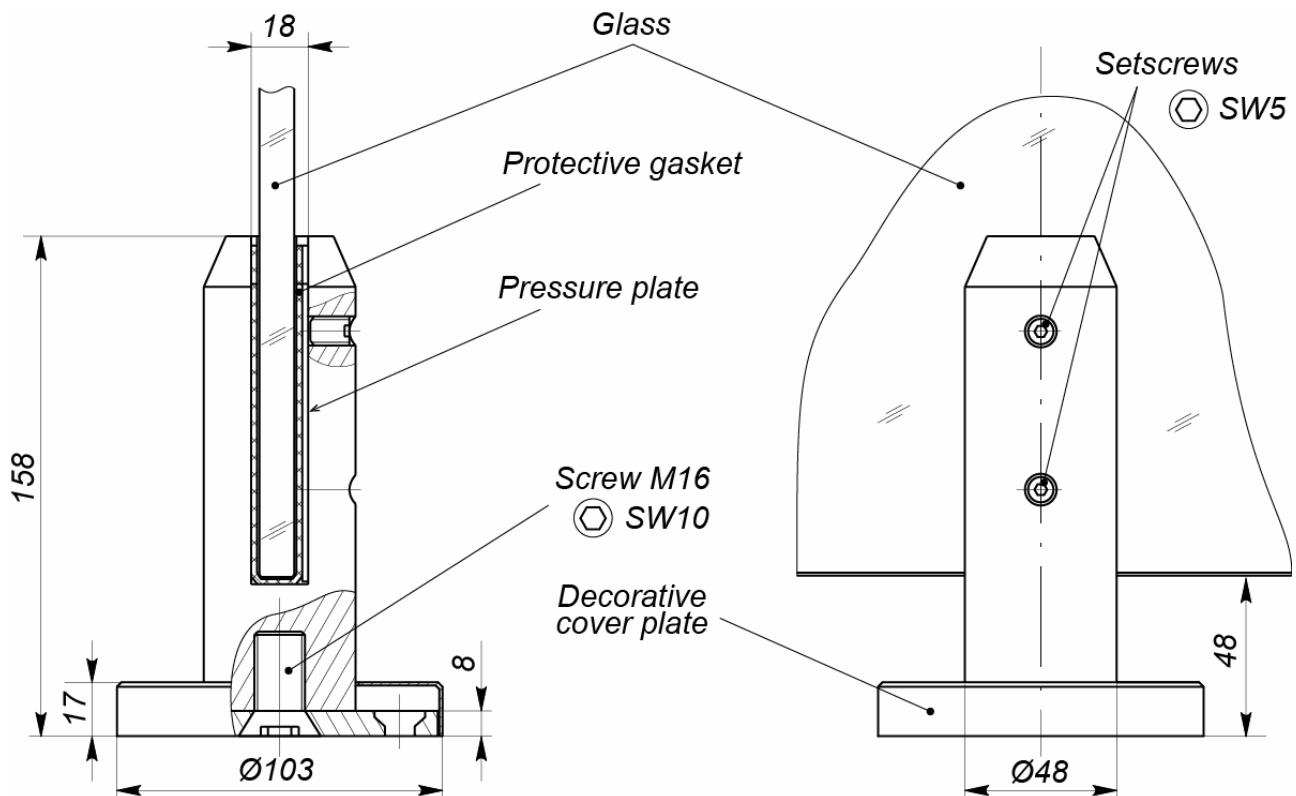
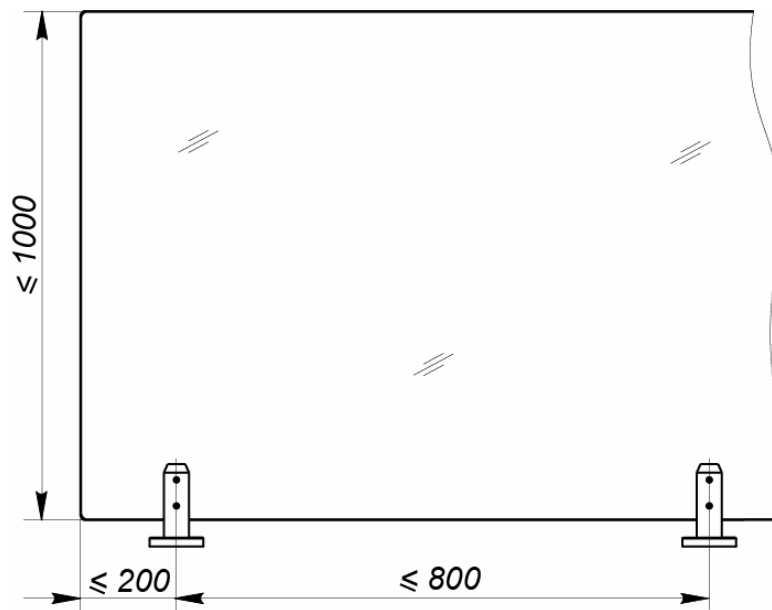

Figure 1. Appearance and dimensions of the mini-post BH-06 2-00
Figure 2. Recommendations for installing a glass railing
The full dimensions of the mini-post are shown in Figure 1. Appearance and permissible dimensions of one section of the railing are shown in Figure 2.
The mini-post is a cylindrical post with a groove for glass, fixed with a screw M16 on the flange. The flange is fixed to the installation surface with 4 M8 anchor screws and is closed with the decorative cove plate. The glass is fixed in the groove with the pressure plate and two M10 setscrews (see Figure 1).
- the lateral part of the glass behind the holders does not exceed 20 cm (see Figure 2).
7. Unscrew for a few turns the setscrews from the post housing (with the Allen key SW5). Insert the pressure plate in the groove on the side of screws, and between it and the opposite side of the groove – insert the half folded protective rubber gasket (see Figure 1).